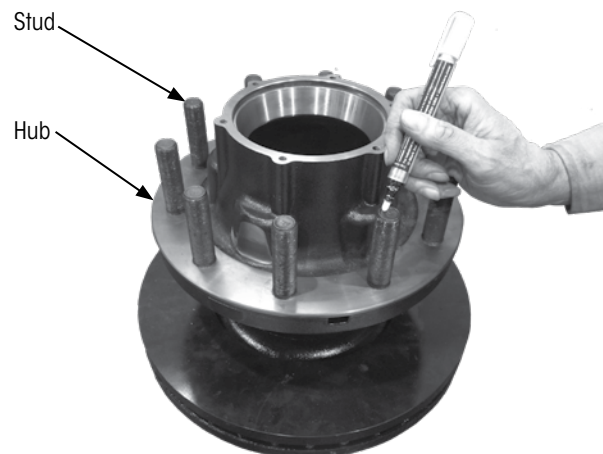

Figure 9: Identifying old studs
1. Place the hub and rotor assembly on a sturdy surface with the studs facing up (Figure 9).